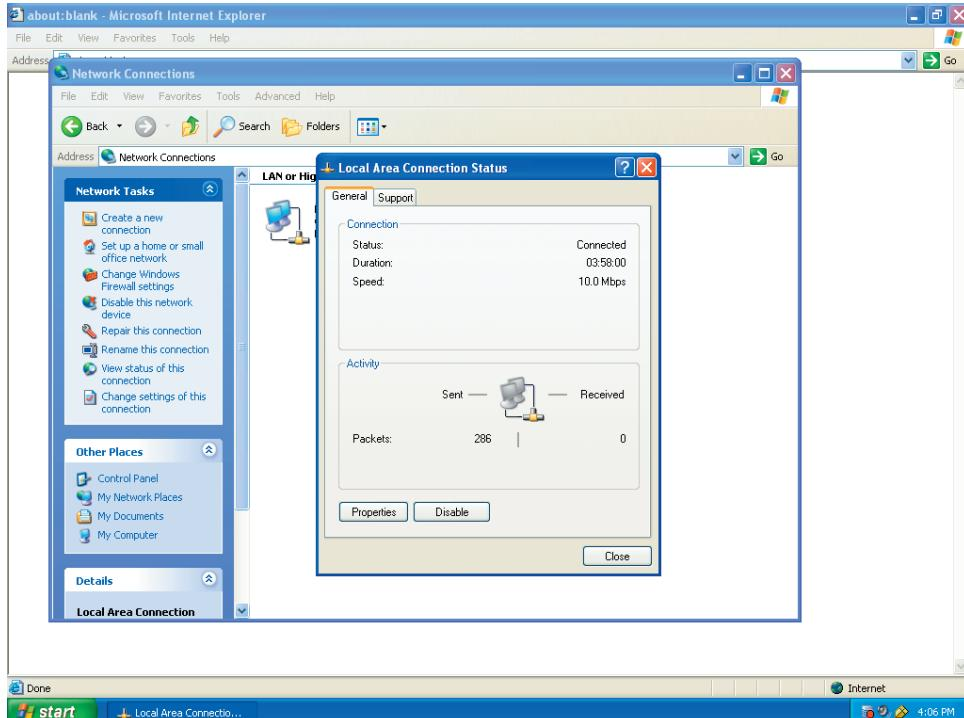

Figure 2-6. Local Area Connection Status Screen
Step 2: Select/click Properties on the Local Area Connection Status screen (Figure 2-6).